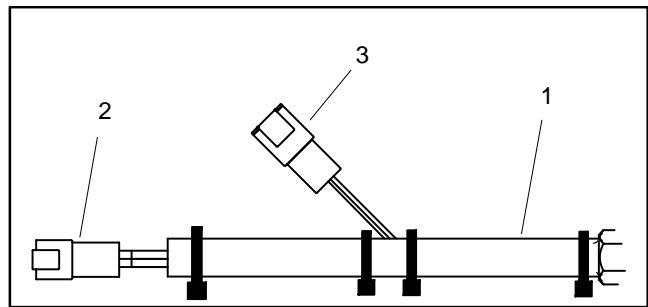

Figure 85
4. Carefully disconnect two (2) reel motor cable connectors from machine wire harness (Fig. 85).